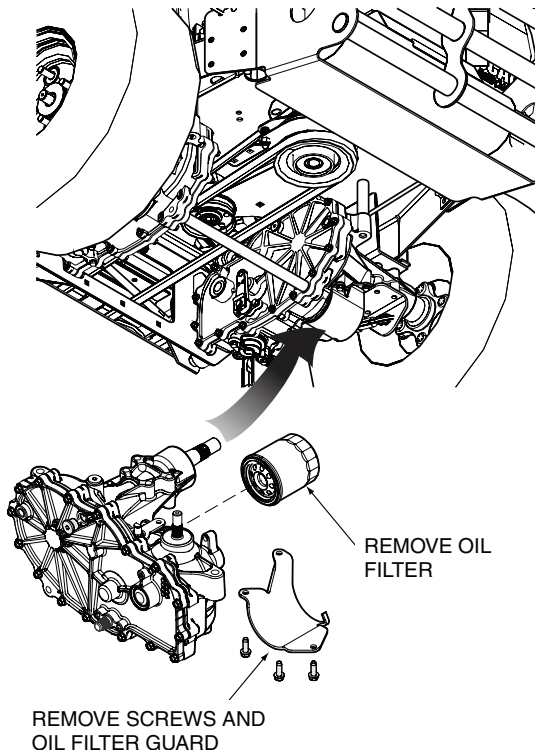

Figure 7-1. Hydraulic Oil Filter and Drain Plug
2. Remove the three 1/4" filter guard screws and filter guard from both axles. See Figure 7-1. Clean any loose debris around the perimeter of the filter.